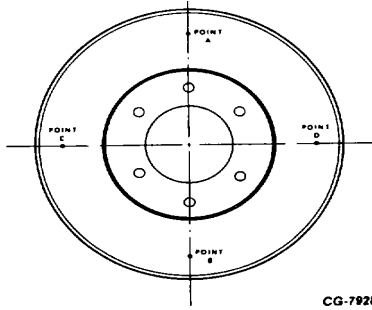

Figure 19. - Damper Housing Measurement Locations
- a. Remove paint off damper at the four points shown in Figure 19.